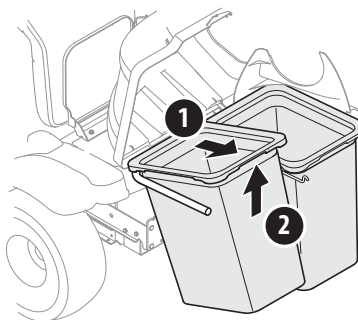

Figure 29
3. Remove the grass bags by lifting up, (1) in Figure 29, and moving the bags away from the bag support assembly (2).